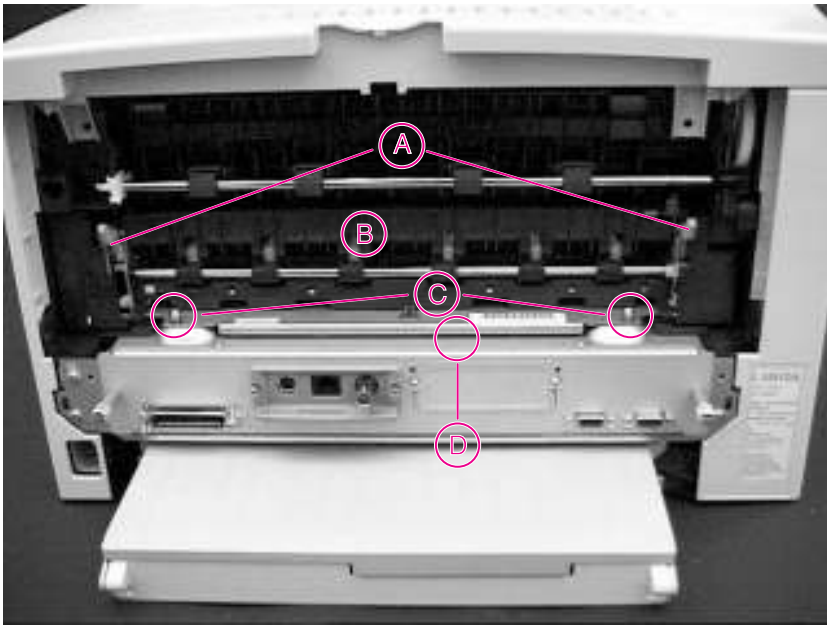

Figure 6-22 Fuser (rear view of printer)
- 2 Facing the back of the printer, remove the two machine screws holding the Fuser in the chassis. See Figure 6-22.